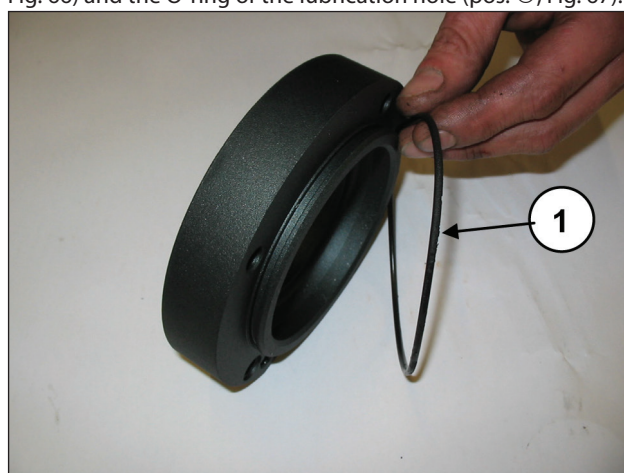
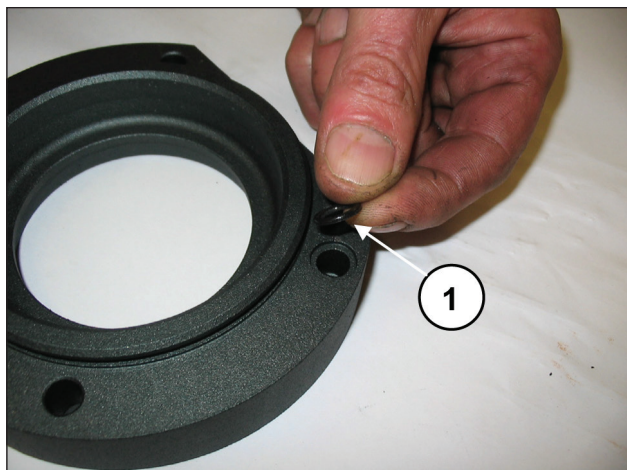

Fig. 66
Fig. 67
Apply to the PTO bearing covers: the external O-ring (pos. ①, Fig. 66) and the O-ring of the lubrication hole (pos. ①, Fig. 67).